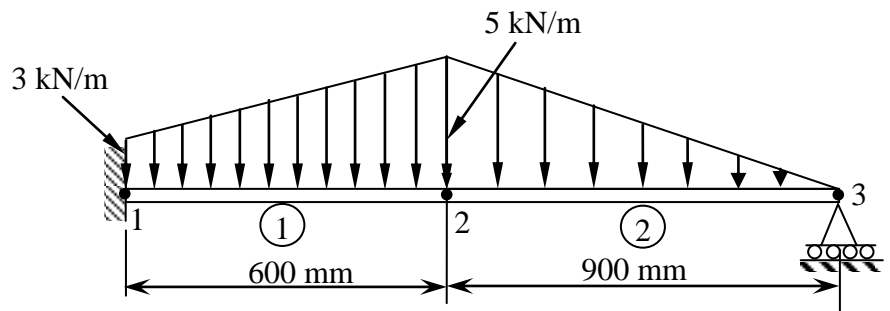

Fig. Q 5A
- 5A. A discretized beam structure shown in Fig. Q 5A has a constant diameter of 20 mm throughout its length. It is subjected to trapezoidal and triangular distributed loads. Use FEM to model the problem.